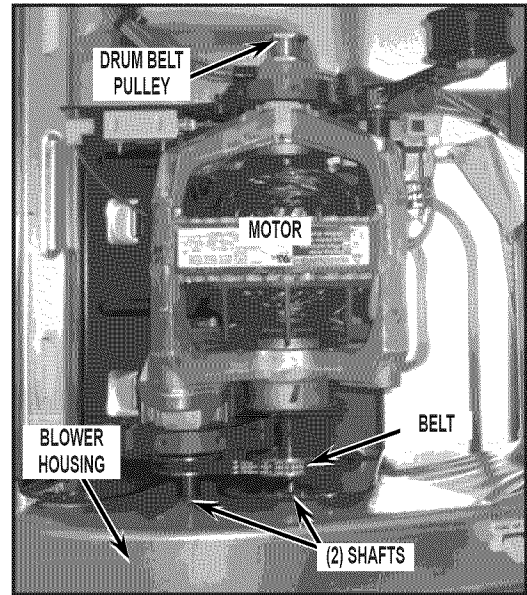

FIGURE 27
IMPORTANT: Dryers with the long vent feature, can NOT be vented out to the left side by the use of this kit. Dryers that can NOT be vented out to the left side can be identified by the configuration in *Figure 27*. Note the (2) shafts on the motor and the belt used between the shafts.